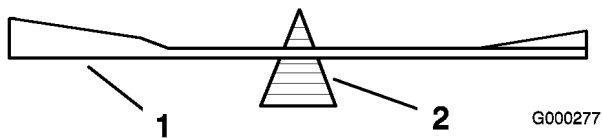
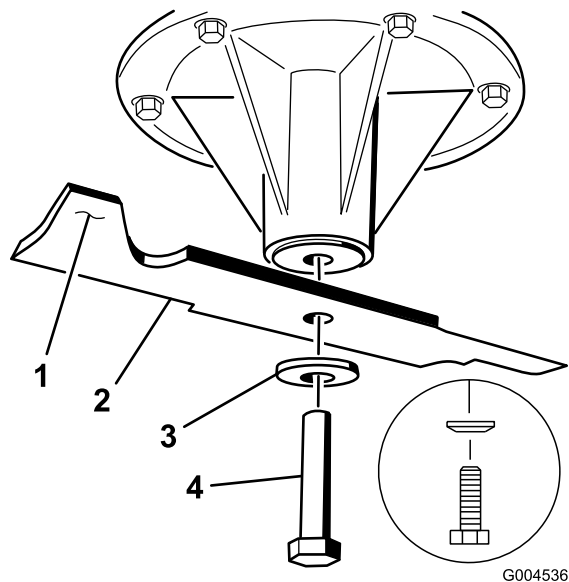

Figure 59
Figure 60
2. Remove the blade bolt, spring disk and blade from the spindle shaft (Figure 60).
2. Check the balance of the blade by putting it on a blade balancer (Figure 59). If the blade stays in a horizontal position, the blade is balanced and can be used. If the blade is not balanced, file some metal off the end of the sail area only (Figure 60). Repeat this procedure until the blade is balanced.
1. Install the blade onto the spindle shaft (Figure 60).
2. Install the spring disk and blade bolt. The spring disk cone must be installed toward the bolt head (Figure 60). Torque the blade bolt to 85-110 ft-lb (115-150 N•m).